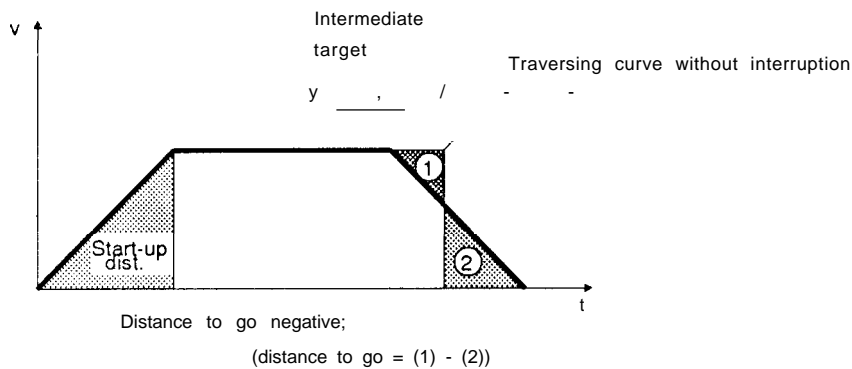

Fig. 4/1 5 Negative distance to go
1. either the distance is sufficient to achieve the programmed speed (see Fig. 4/1 6), or